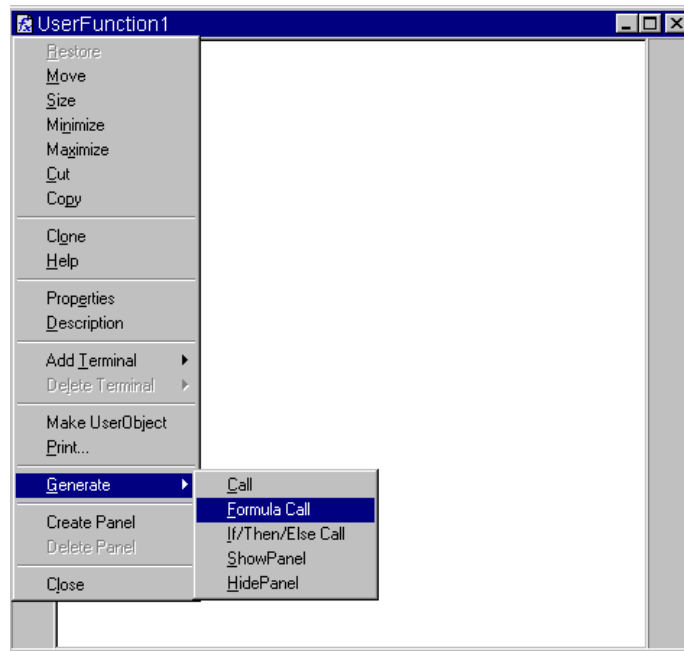

Figure 7-7. The Generate Menu in a UserFunction
2. In the `UserFunction` `ArrayStats`, select the object menu and select `Generate` ⇒ `Formula Call`. Figure 7-7 shows the `Generate` menu in a `UserFunction` object menu.